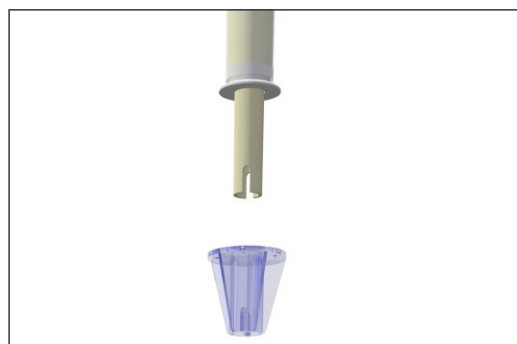

Fig. 27
2. In the bottom of the pole you will see two grooves, one either side (Fig 27). Also, under the desktop you will see a white mounting bracket in line with the mounting hole in the desktop. The grooves in the pole are designed to locate over two corresponding lugs in the mounting bracket. Carefully, lower the pole into the mounting hole until it is firmly located (Fig. 28).